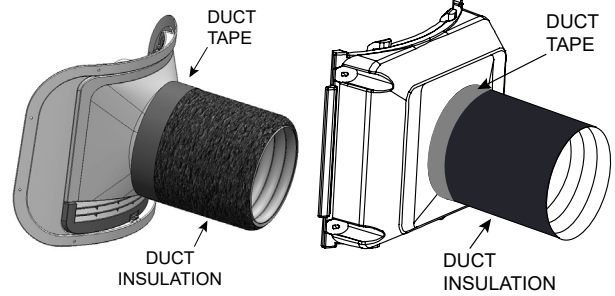

Figure 7.
- Slide insulation back over the duct core and the lip of the inlet duct adaptor. Use duct tape to secure the insulation to the inlet duct assembly see Figure 7.